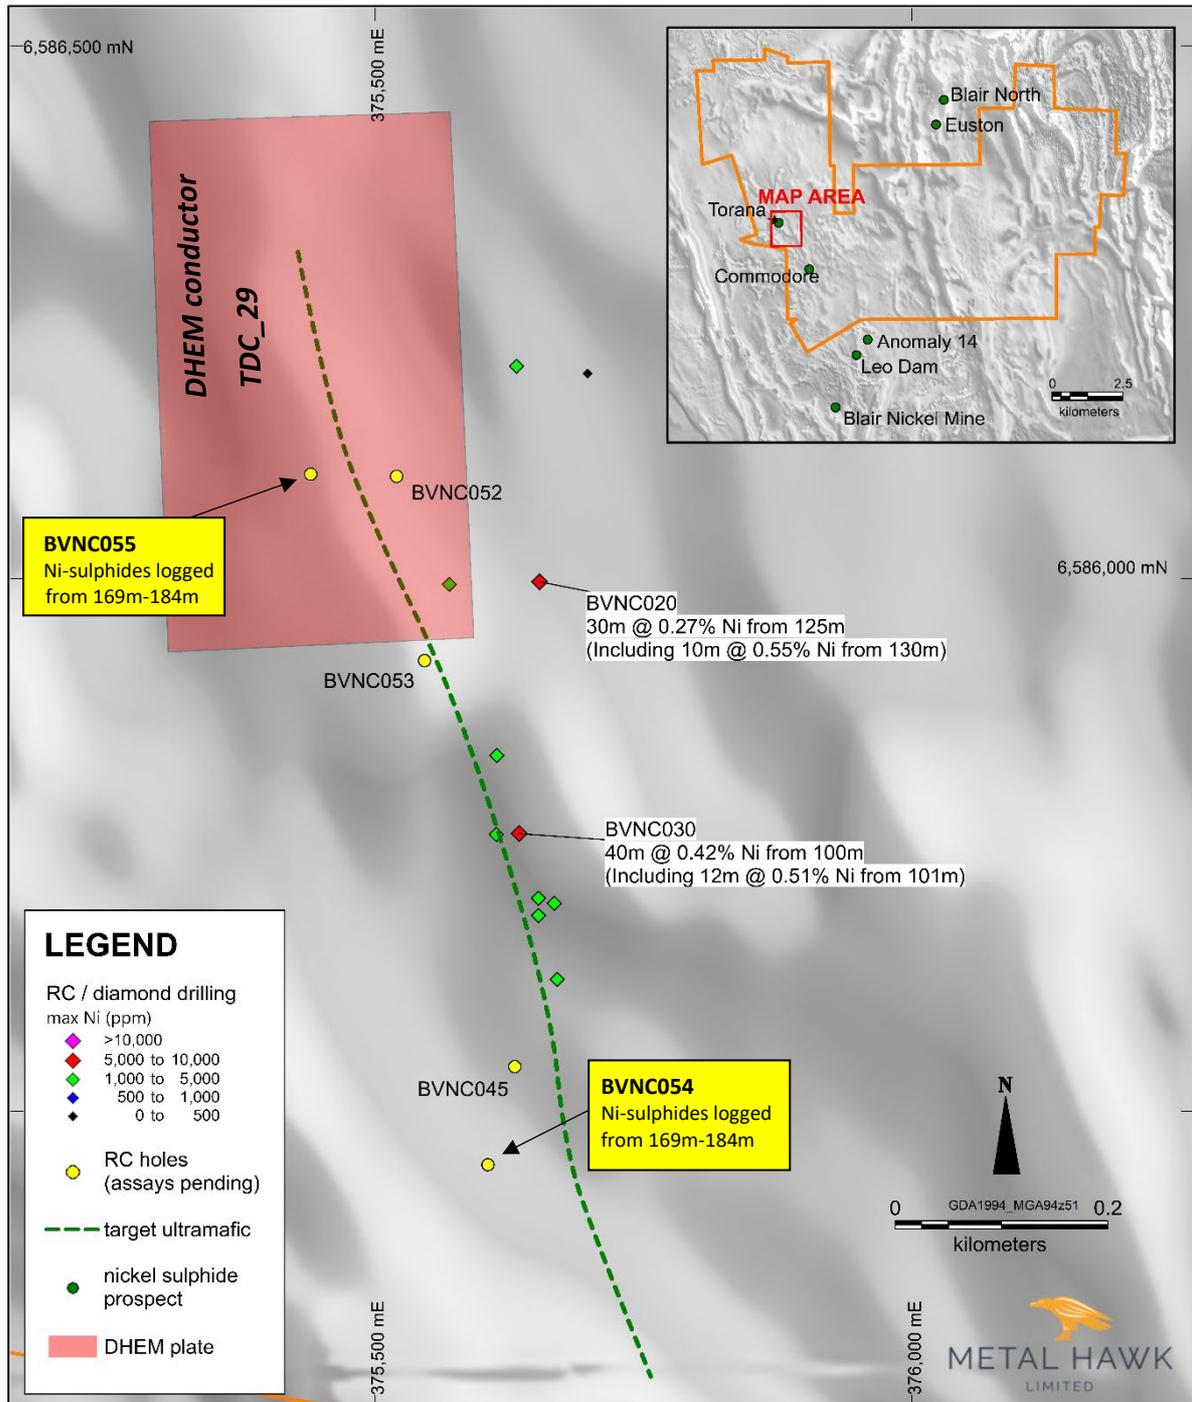

Figure 1. RC drilling at Torana – new highlights shown in yellow (assays pending)
Five (5) RC holes were drilled at the Torana prospect (Figure 1), located 1.5km north and along strike from the Company’s high-grade Commodore nickel sulphide discovery. Drilling has extended the open strike length of the targeted ultramafic unit at Torana to nearly 1km. The presence of disseminated nickel sulphides observed in RC drill chips (verified by pXRF analysis) further highlights the nickel fertility of this untested ultramafic belt.